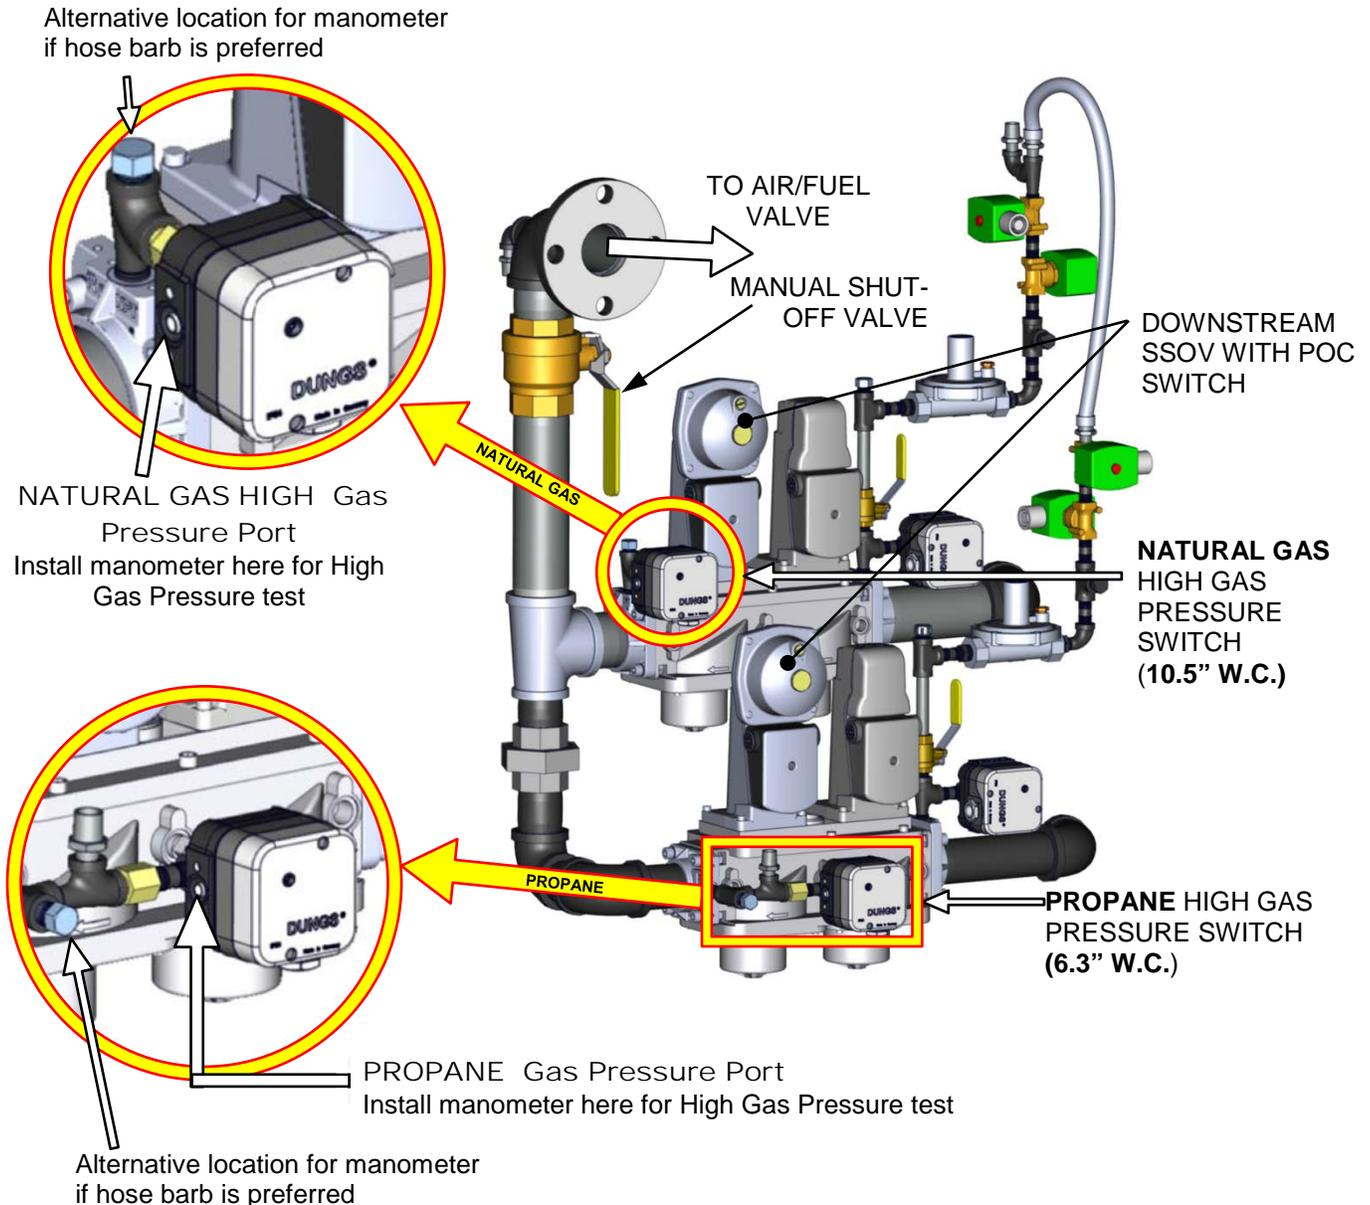

Figure 6-1B: High Gas Pressure Switch Locations & Test Ports
To simulate a high gas pressure fault, refer to Figure 6-1B and perform the following steps. The instructions below apply to both the Natural Gas and Propane gas trains.
14. Repeat this procedure on the PROPANE gas train, starting with opening the port on the side of the PROPANE High Gas Pressure Switch, as shown Figure 6-1B.